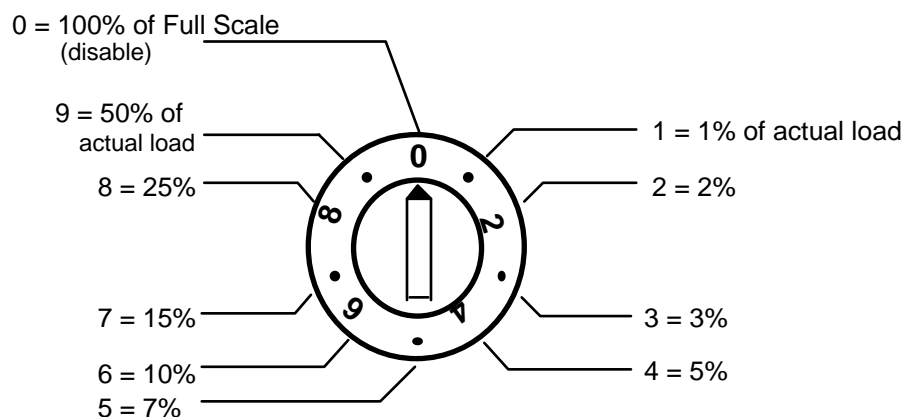

Figure 4-2. Percent repeatability selector switch
3. Look at Figure 4-2 to become familiar with the selector setting switch. (This drawing is also shown on a label inside the AutoSet Plus door.) The selector dial has settings from 0 to 9. Each of the settings represents a percentage. The first dot to the right of 0 is 1. 1 = 1%; 2 = 2%; 3 = 3%; 4 = 5%, and so on.